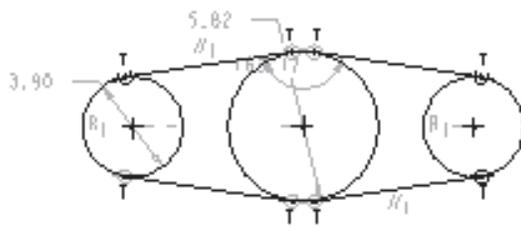

Figure 2-30 Sketch with tangent constraints
3. Select the top left line and the left circle. You will notice that the tangent constraint symbol **T** is applied. This indicates that the selected line is tangent to the selected circle. Similarly, one by one select all the circles and lines to make them tangent. Figure 2-30 shows the sketch after the tangent constraint is applied.